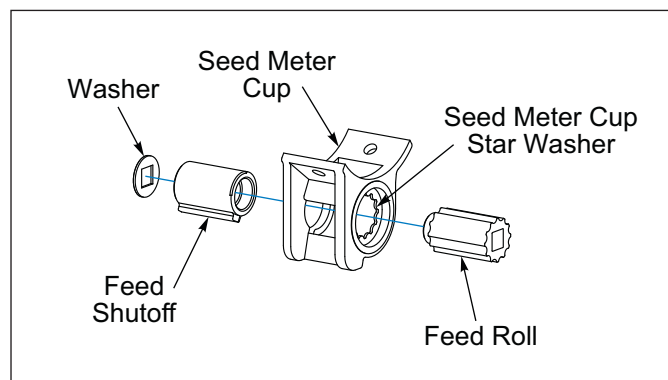

Figure 5-13: Small Seed Meter
5. **Rear Seed Box:** Individual Seed Meter Cups can be adjusted as required. Adjustments can be made by loosening the 1/4-20 x 5/8 Machine Screws that mount the Seed Meter Cup to the Seed Box. Adjust the affected Seed Meter Cup so the Feed Shutoff is against the Seed Meter Cup Star Washer in the Seed Meter Cup (closed). Be sure the Feed Roll stays engaged in the Seed Meter Cup Star Washer. **See Figure 5-13.**